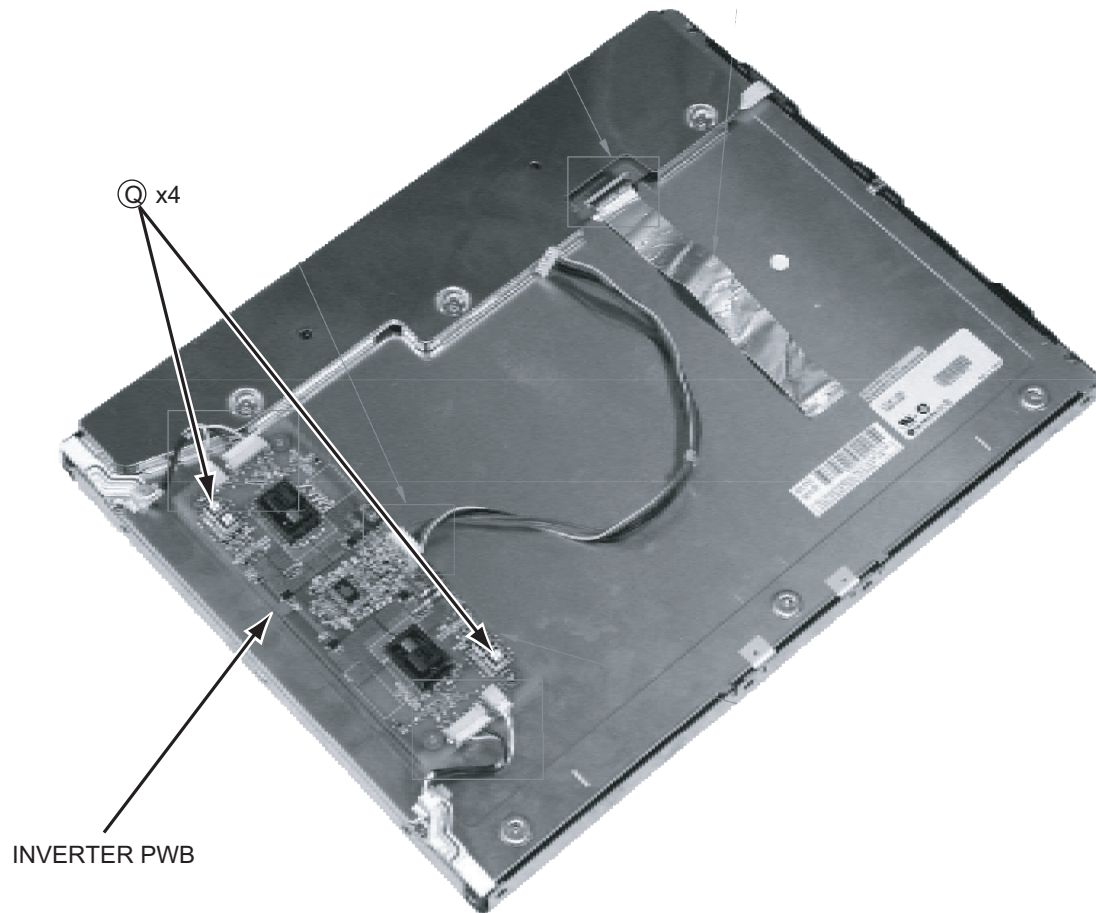

Fig.9
3.1.9 REMOVING THE INVERTER PWB (Fig.9)